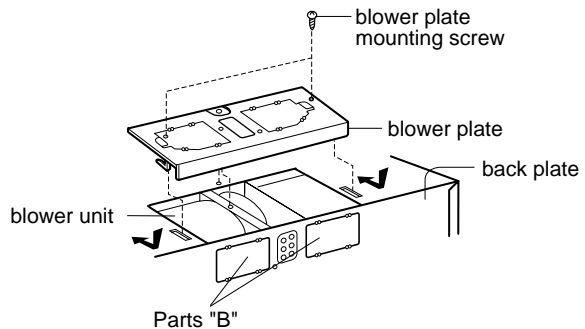

Figure 19
5. Reattach blower plate to microwave oven. Attach with the one blower unit mounting screw and then the two blower plate mounting screws. See Figure 19.